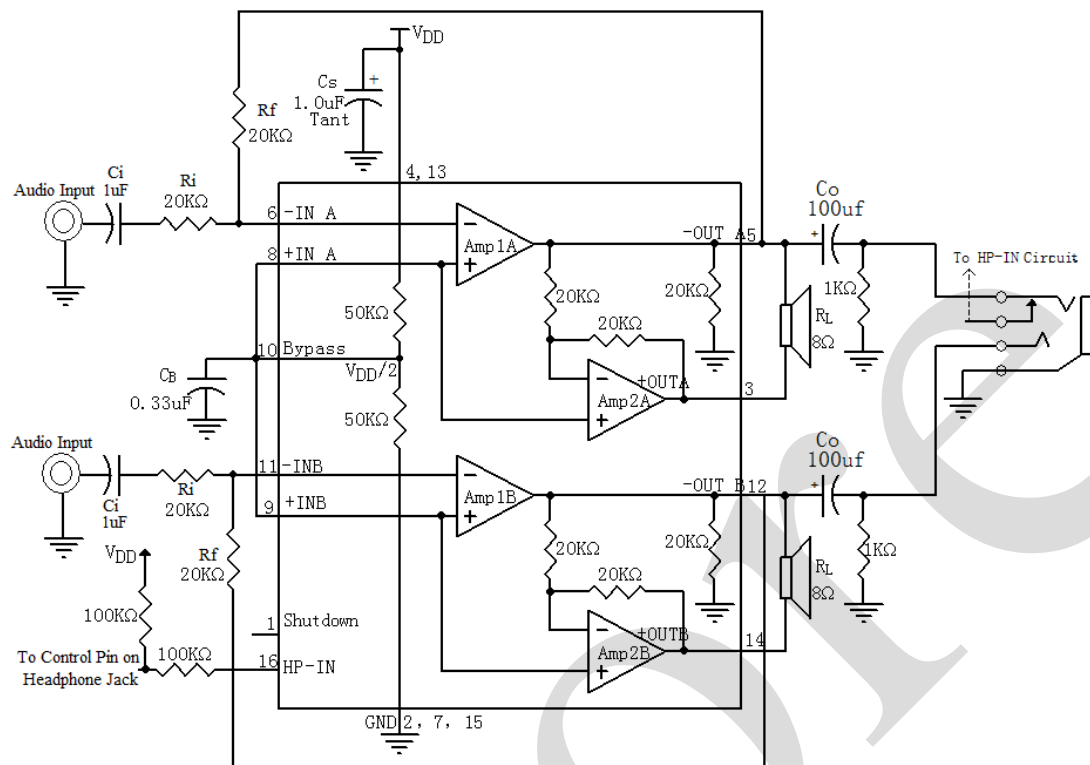

Figure 1
As shown in Figure 1, the CS4863 consists of two pairs of operational amplifiers, forming a two-channel (channel A and channel B) stereo amplifier. (Though the following discusses channel A, it applies equally to channel B.) External resistors  $R_f$  and  $R_i$  set the closed-loop gain of Amp1A, whereas two internal  $20K\Omega$  resistors set Amp2A's gain at -1. The CS4863 drives a load, such as a speaker, connected between the two amplifier outputs, -OUTA and +OUTA.
Figure 1 show that Amp1A's output serves as Amp2A's input. This results in both amplifiers producing signals identical in magnitude, but  $180^\circ$  out of phase. Taking advantage of this phase difference, a load is placed between -OUTA and +OUTA and driven differentially (commonly referred to as "bridge mode"). This results in a differential gain of
Amplifying the lowest audio frequencies requires high value input coupling capacitor ( $C_i$  in Figure 1). A high value capacitor can be expensive and may compromise space efficiency in portable designs. In many cases, however, the speakers used in portable systems, whether internal or external, have little ability to reproduce signals below 150Hz. Applications using speakers with this limited frequency response reap little improvement by using large input capacitor.
As shown in Figure 1, the input resistor ( $R_i$ ) and the input capacitor,  $C_i$  produce a -3dB high pass filter cutoff frequency that is found using Equation (5).
As an example when using a speaker with a low frequency limit of 150Hz,  $C_i$ , using Equation (5), is  $0.063\mu F$ . The  $1.0\mu F$   $C_i$  shown in Figure 1 allows the CS4863 to drive high efficiency, full range speaker whose response extends below 30Hz.